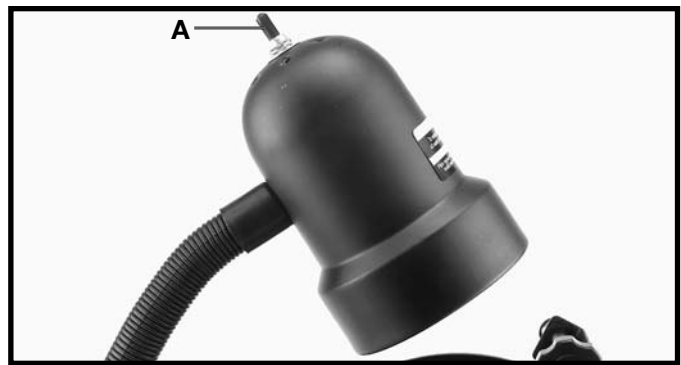

Fig. 13
The flexible lamp operates independently of the grinder. To turn the lamp on and off, rotate switch (A) Fig. 13.